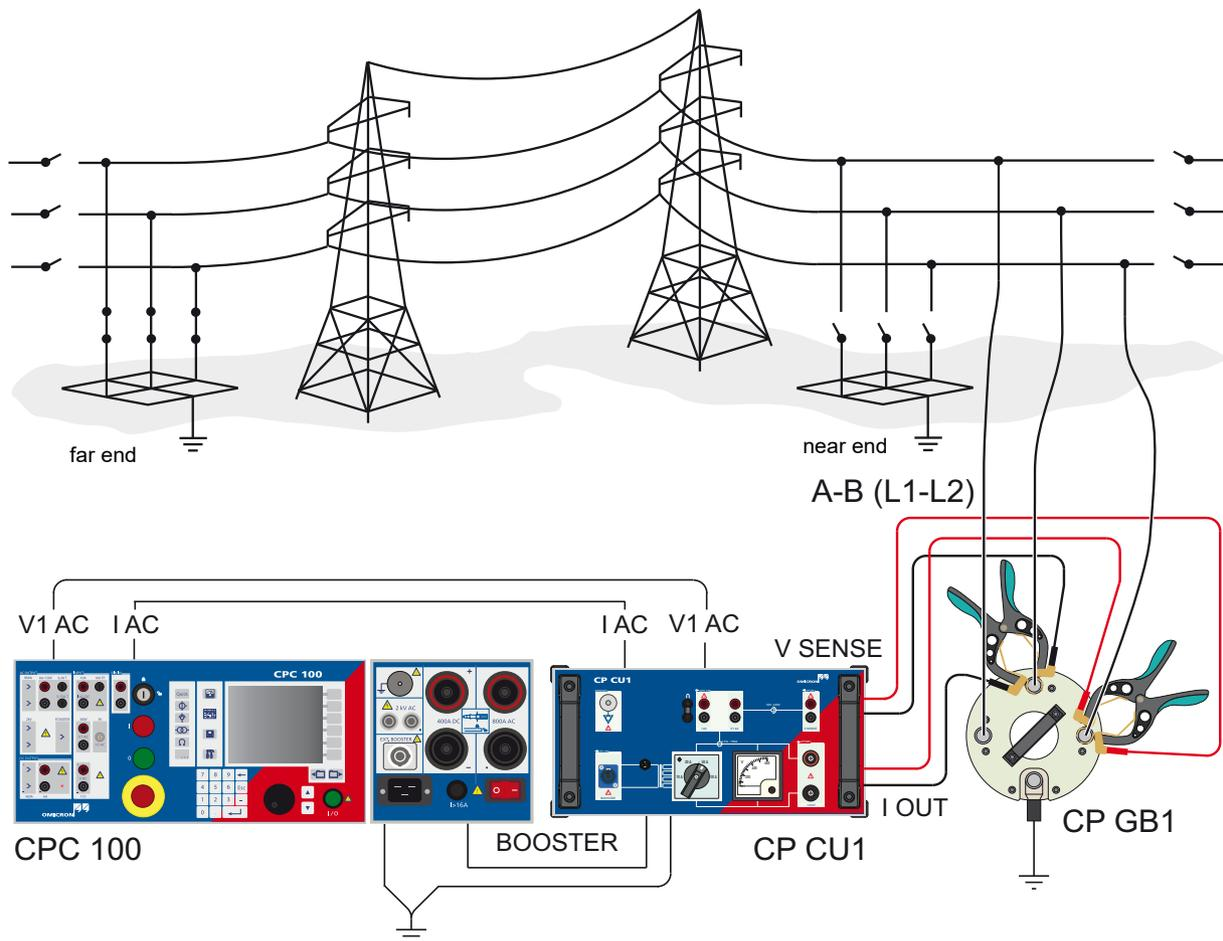
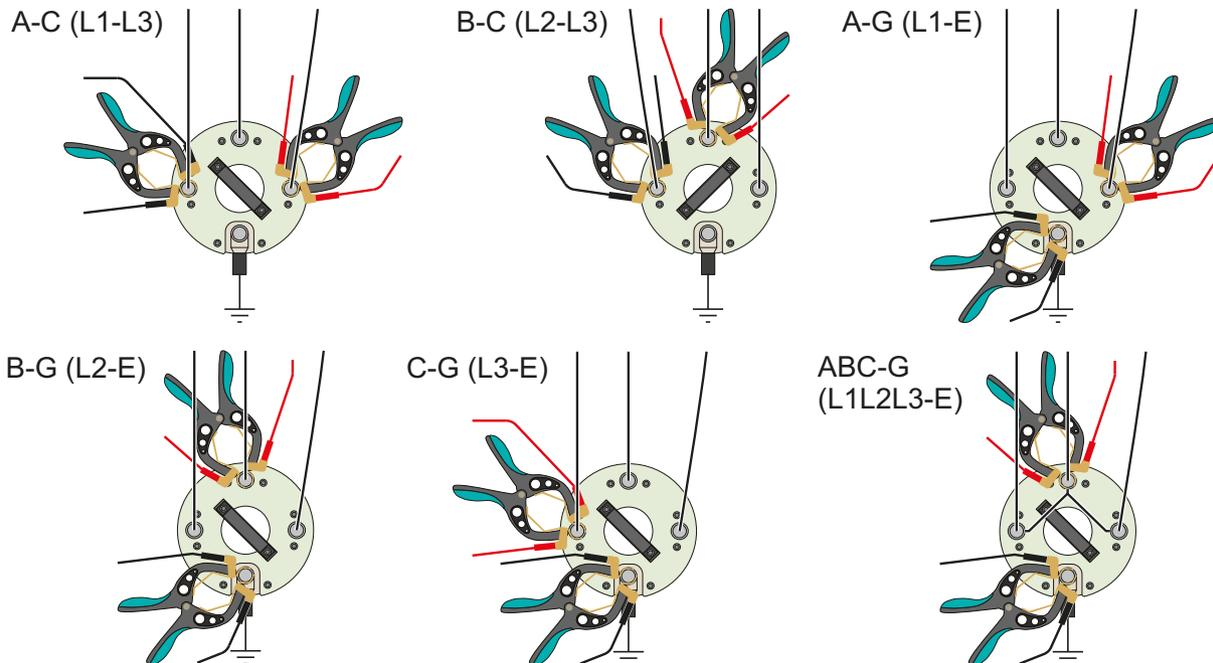

Figure 4-8: Line impedance measurement loop A-B (L1-L2)
Figure 4-9: Clamp connections for measurement loops 2 to 7
As an example, Figure 4-8 below shows the connection of the *CP CU1* to the *CP GB1* for measurement loop L1-L2.
2. Change the connection accordingly for all other test loops as shown in Figure 4-9 below.
3. Press the **I/O Button** on the *CPC 100*'s front panel to start a measurement after you have connected the clamps to the *CP GB1* according to the respective **Schema** test card as well as Figure 4-8: "Line impedance measurement loop A-B (L1-L2)" on page 38 and Figure 4-9: "Clamp connections for measurement loops 2 to 7" on page 39.
1. Press the **I/O Button** on the *CPC 100*'s front panel to start a measurement after you have connected the clamps to the *CP GB1* according to the respective **Schema** test card as well as Figure 4-8: "Line impedance measurement loop A-B (L1-L2)" on page 38 and Figure 4-9: "Clamp connections for measurement loops 2 to 7" on page 39.